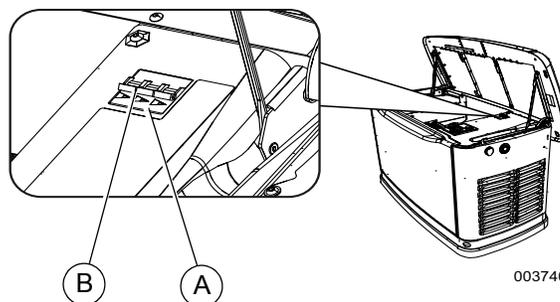

Figure 3-2. Main Breaker
This is a 3-pole breaker rated according to relevant specifications. See (A) in Figure 3-2.